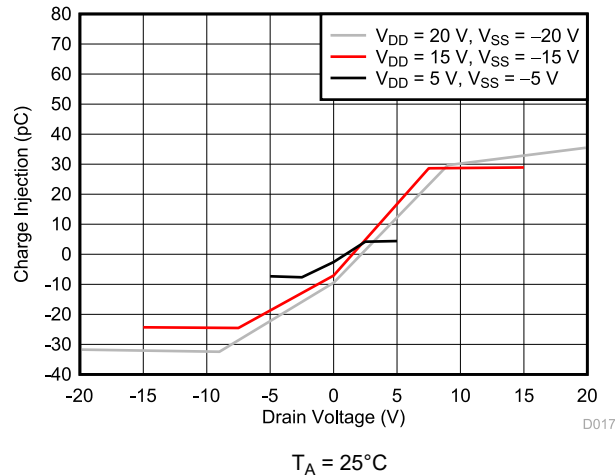

Figure 9-3. Charge Injection vs Drain Voltage
The low on and off leakage currents of TMUX7208 and ultra-low charge injection performance make this device ideal for implementing high precision industrial systems. The TMUX7208 contains specialized architecture to reduce charge injection on the drain side (D) (see Section 8.3.7 for more details). Figure 9-3 shows the plot for the charge injection versus source voltage for the TMUX7208.